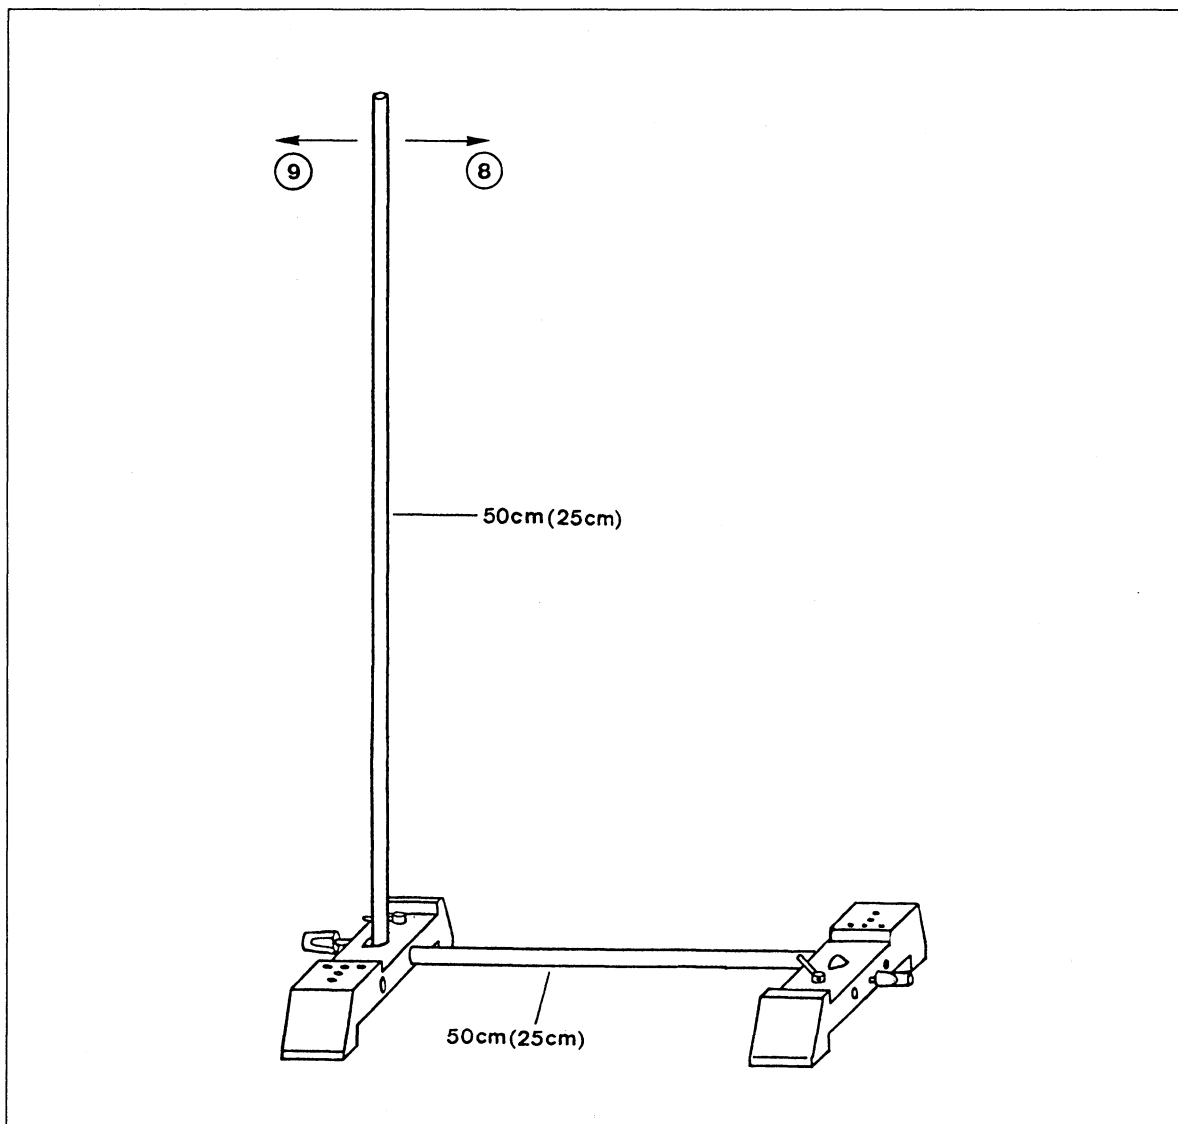

Fig. 4 Frequently used stand arrangement
Fig. 4 shows a popular way of setting up a stand
You can use the double socket to connect rods and tubes at right angles to one another. The coupling should be attached to the vertical rod as shown in fig. 4. By undoing the screw at the front (15), you can move the experimental setup to the level you want.